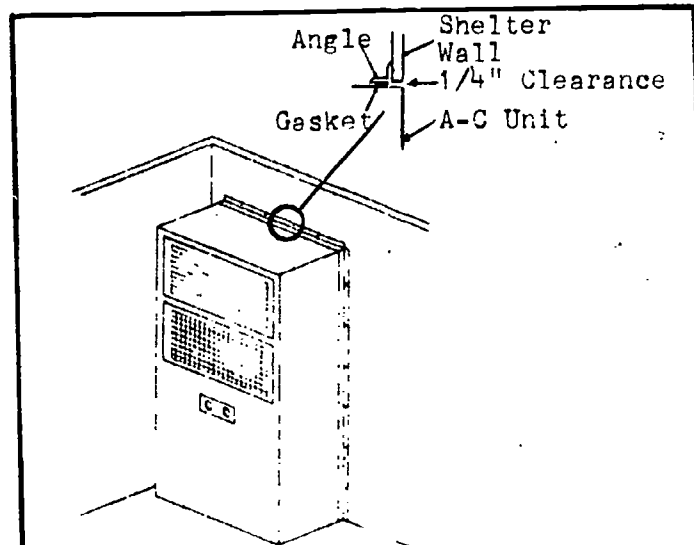

Fig 4-12. Through-the-wall installation.
a. **Through-the-wall.** When this method is used, the unit rests inside the area to be conditioned while the condensing and fresh air inlet side are vented through an opening in the wall to the outside. An opening, 1/4 in. larger than the outside dimensions of the unit, is cut in the wall. The clearance helps prevent transmission of vibration to the wall structure (fig 4-12). The unit is centered in the opening and bolted to the floor. All units have 15/32-in. -diameter holes with 7/16-14 nuts in the base for mounting. Aluminum or steel angles with rubber gasketing may be installed around the unit to seal the opening. A drain line is connected to one of the 1/2 in. NPT drain connections located at the front, back, and sides of the unit. A trap or loop is required in the drain line to achieve proper drainage. Electrical connection is generally made at the back of the unit with an MS connector. Alternate connections are located on each side of the unit.